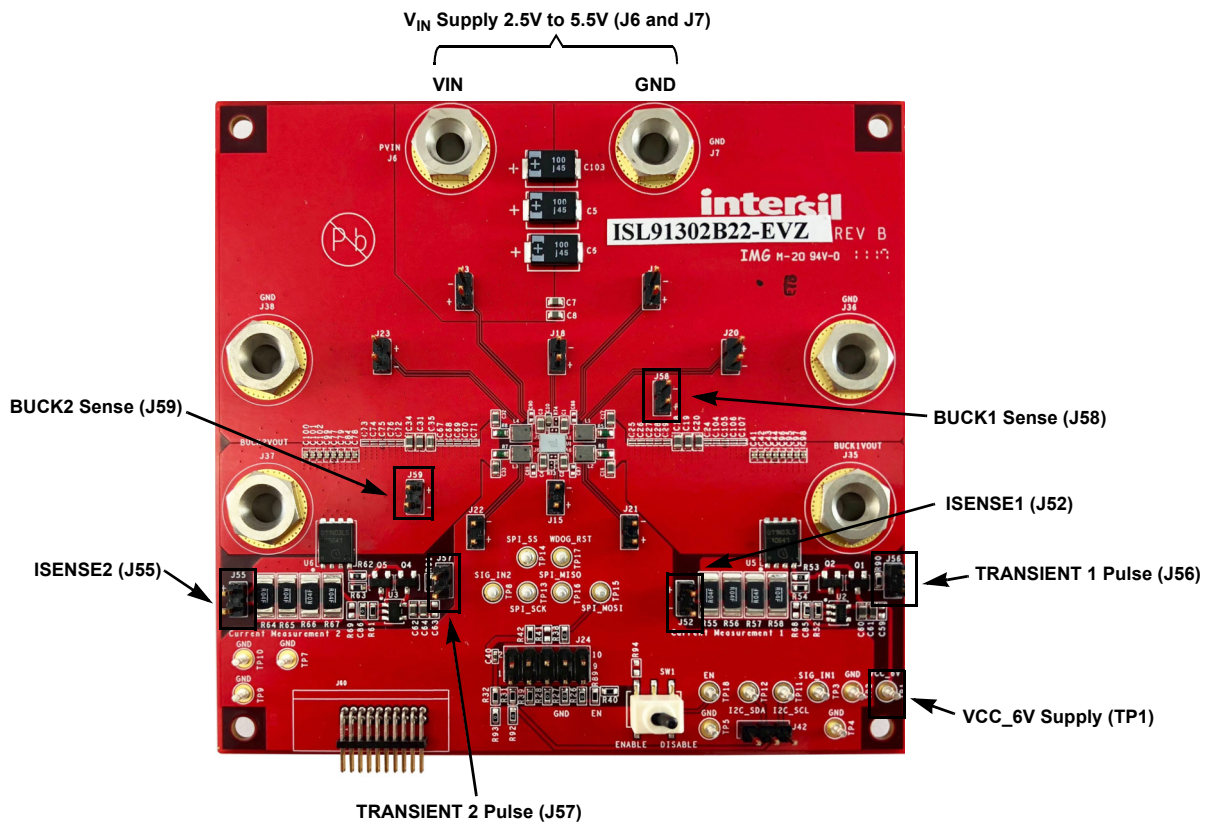

Figure 12. ISL91302B22-EVZ Load Transient Measurement Connections
- (1) Go through the setup procedure (see “Setup Guide” on page 5). The ISL91302B22-EVZ should already be powered up with 2.5V to 5.5V at J6 (V_{IN} supply) and 6V at TP1 (VCC_6V).
- (2) Connect a slew rate controllable signal generator to transient load circuit input, J56 (TRANSIENT 1 PULSE GEN) or J57 (TRANSIENT 2 PULSE GEN).
- (3) Program the signal generator to pulse mode, set the frequency to 100Hz, ON duration to 200 μ s, and signal amplitude from 0V to 2V. The load transient circuit starts to turn on when the input is \sim 2.6V. When in doubt, connect the signal generator output to an oscilloscope set to 1M Ω termination. The slew rate of the pulse, both rising and falling, should be conservatively slow, for example, 1 μ s.
- (4) Connect a differential probe to monitor load current across the sense resistors J52 (ISENSE1) or J55 (ISENSE2). The load current can be accurately converted to a voltage at 1A/10mV. Make sure the vertical scale of the oscilloscope is set properly to display the full amplitude of the load profile.
- (5) Connect a second differential probe at the VOUT sense points connected to the V_{OUT} decoupling capacitors, J58 (BUCK1 SENSE) or J59 (BUCK2 SENSE).
- (6) Set the oscilloscope to measure the rise and fall times and maximum level of the load current. Slowly increase the signal generator amplitude and slew rate until desired load profile is achieved. For detailed setup information, refer to Figure 12 on page 10.